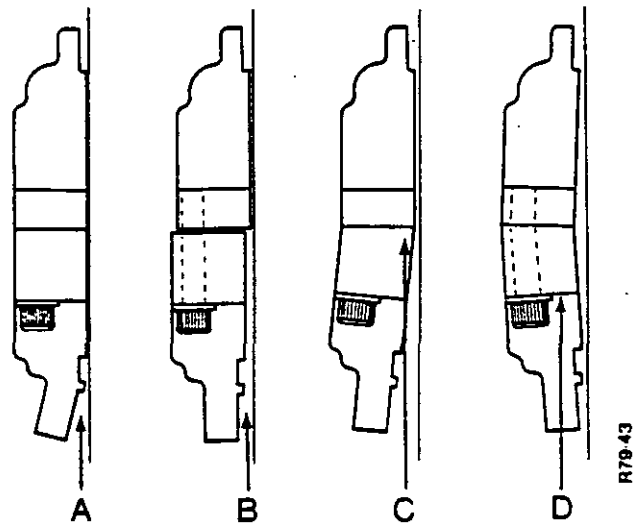

Figure 2. OIL RETAINER FAULTS
1. Check the retainer for the faults A, B, C and D shown in Figure 2.
3. Check that the seat of the socket head screw is parallel to the joint face of the retainer. See fault D, Figure 2. If the seats are not parallel, the retainer will bend when the screws are tightened. If necessary use a file as in Operation 2 to make the faces parallel.